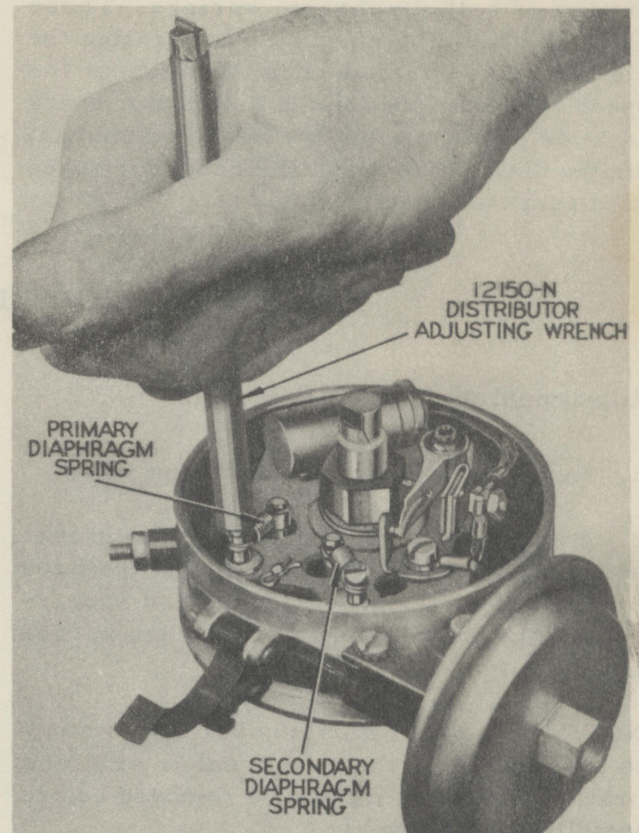

Fig. 15
6. Remove the primary and secondary diaphragm springs by first turning the breaker plate spring posts to a position nearest the stationary posts to release the tension on the springs (tag each spring to identify the post from which it was removed). Use of a Distributor Adjusting Wrench (Tool No. 12150-N) is recommended (see Fig. 15 on Page 10).
4. Release the tension on the primary and secondary diaphragm springs by turning the breaker plate spring posts to the position nearest the stationary base posts (Fig. 15).